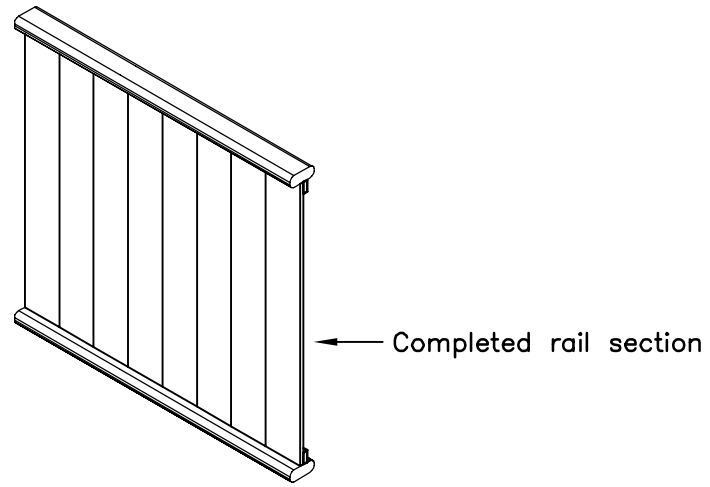

FIGURE S9
- Affix wall sections together as per Figure S9. Use 3 inch screws to secure the beveled edge of the right post of one wall section to the left post of the adjacent panel. The centre posts are secured together with 3 inch screws. Use approximately 5 screws per joint. Also ensure the top notch cut is facing out wards.